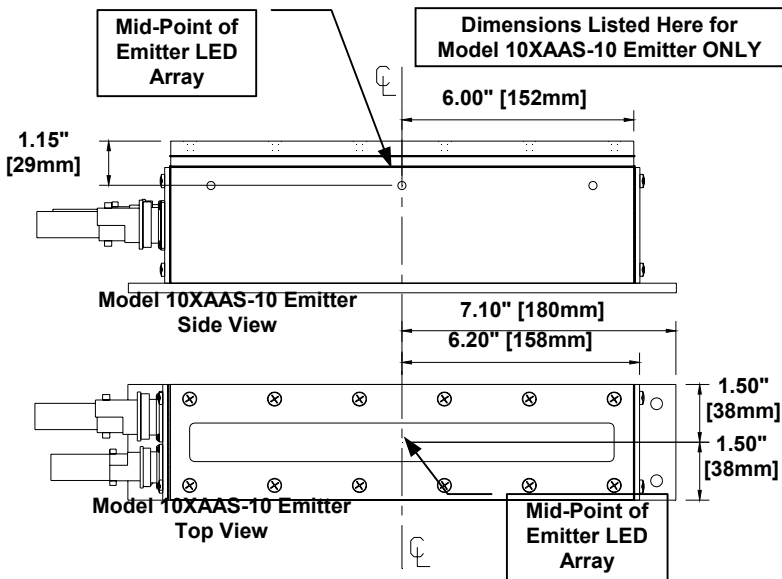

Figure C.4-8: Emitter LED Mid-point for Model 10XAAS-10 Emitter
- 1) Determine the mid-point of the emitter LED array {Figure C.4-8}. If not already marked from the factory, mark this point of the emitter housing side 1.15 inches [29mm] from the emitter face.